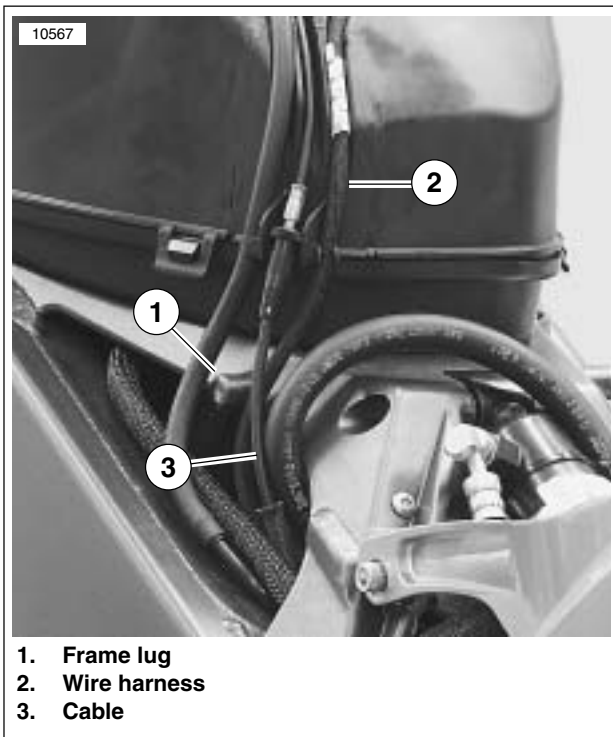

Figure 7-92. Correct Cable Routing Behind Frame Lug
4. See Figure 7-92. Verify that the interactive exhaust cable (2) is routed behind the frame lug (1) before installing air intake cover.